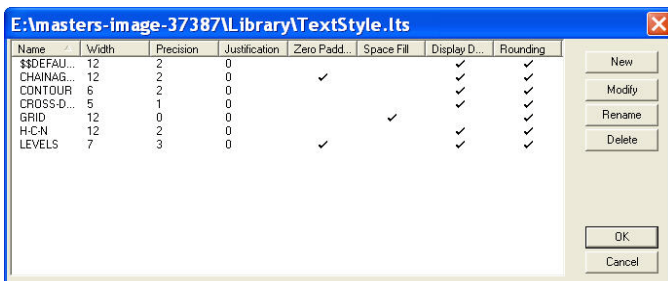
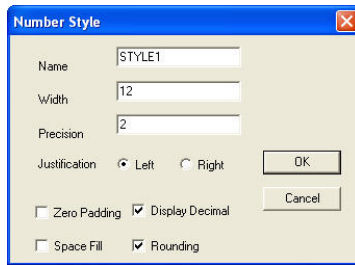

Figure 16-11. List of Justification Styles Library
Figure 16-12. Number Style Window
The *library textstyles* dialog box appears, listing all of the justification styles in the library (Figure 16-11).
1. Select a current style that has similar settings to the new style, and click **New** on the *library textstyles* dialog box (Figure 16-11).
The *Number Style* dialog box appears (Figure 16-12). The fields in this dialog box are the same as the columns on the *library textstyles* dialog box in Figure 16-11 and as described in Table 16-4 on page 16-22.